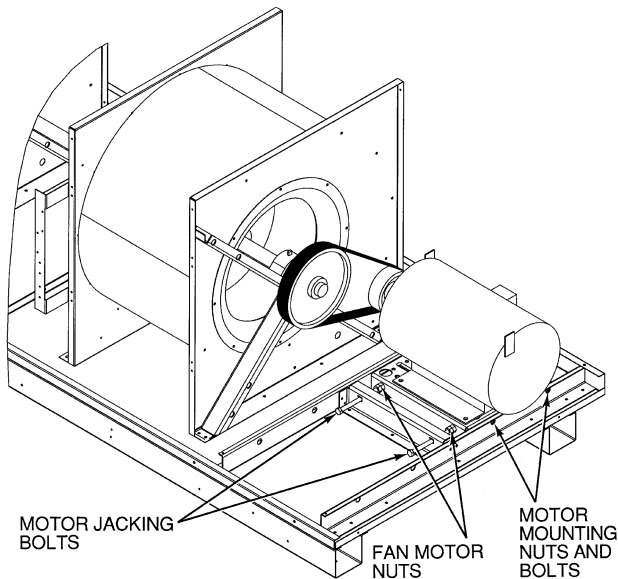

Fig. 47 — Belt Tension Adjustment
2. Loosen motor mounting nuts and bolts. See Fig. 47.